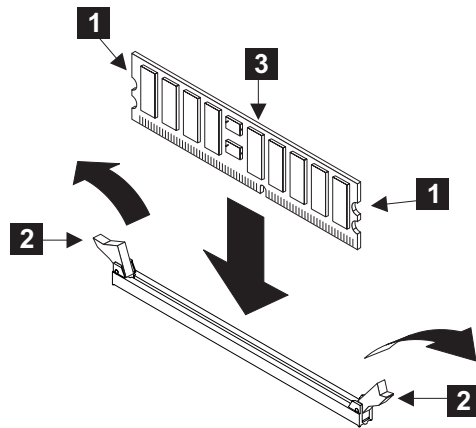

Figure 103. Removing the memory modules
4. Refer to Figure 103 on page 161.